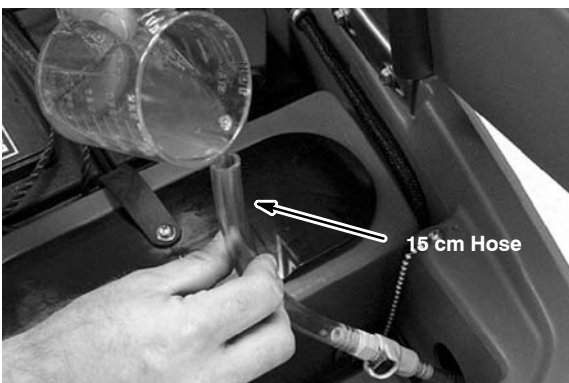

FIG. 68
3. Route the supply hose back up to the FaST-PAK compartment. Connect the 15 cm hose (purchased part) to the valve coupling and pour RV anti-freeze into the hose until full (Figure 68). Squeeze the supply hose several times if the anti-freeze does not flow.